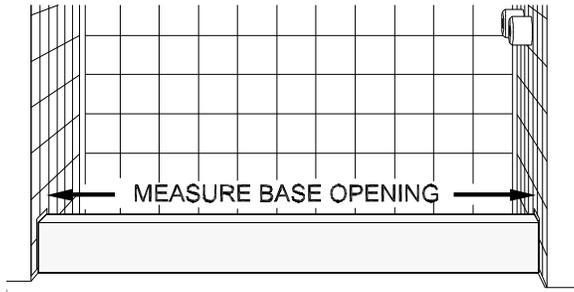

Figure 1
Measure the base opening along center of shower curb as shown in **Figure 1**, then trim Sill (A) to 1/16" less than measurement obtained.